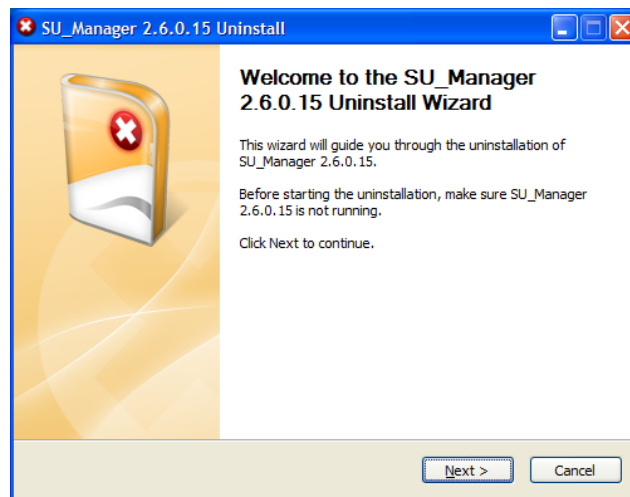

Figure 2-35: SU_Manager Uninstall Wizard – Welcome
6. In *SU_Manager Uninstall Wizard Welcome* window shown in Figure 2-35, click **Next**.